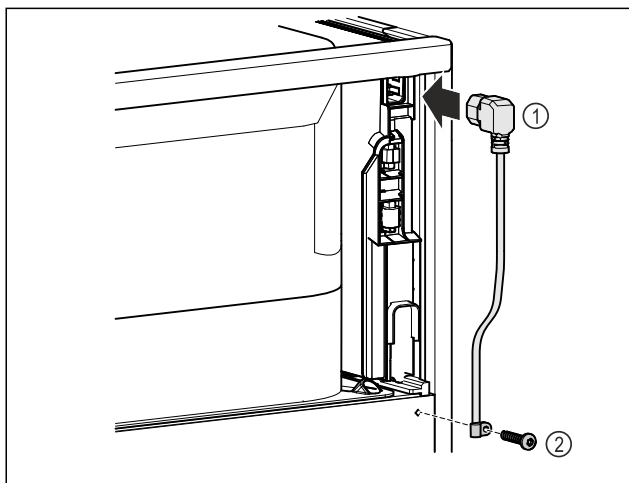

Fig. 47
- IEC socket of the power cable Fig. 47 (1) on the rear side of the appliance.
- Install mains tension relief. Fig. 47 (2)